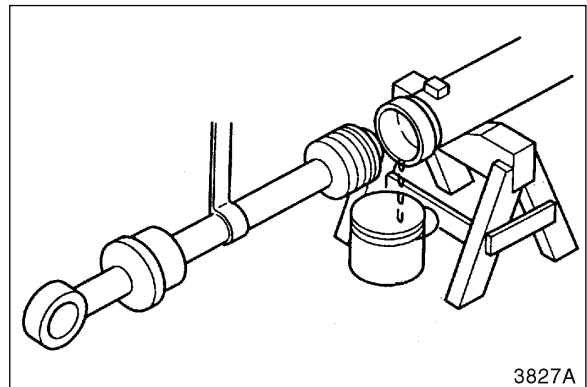

Figure 8
2. Support cylinder rod with a lifting sling. See Figure 8. Slide cylinder rod out of cylinder tube. Rotate cylinder rod slightly as it is being pulled from cylinder tube. This will make it easier to pull rod out of tube.